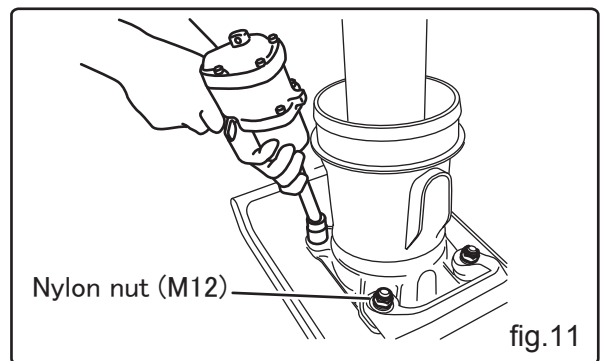

fig.11
F. Remove the foot assembly by unscrewing 4 pcs M12 nylon nuts. (fig.11)